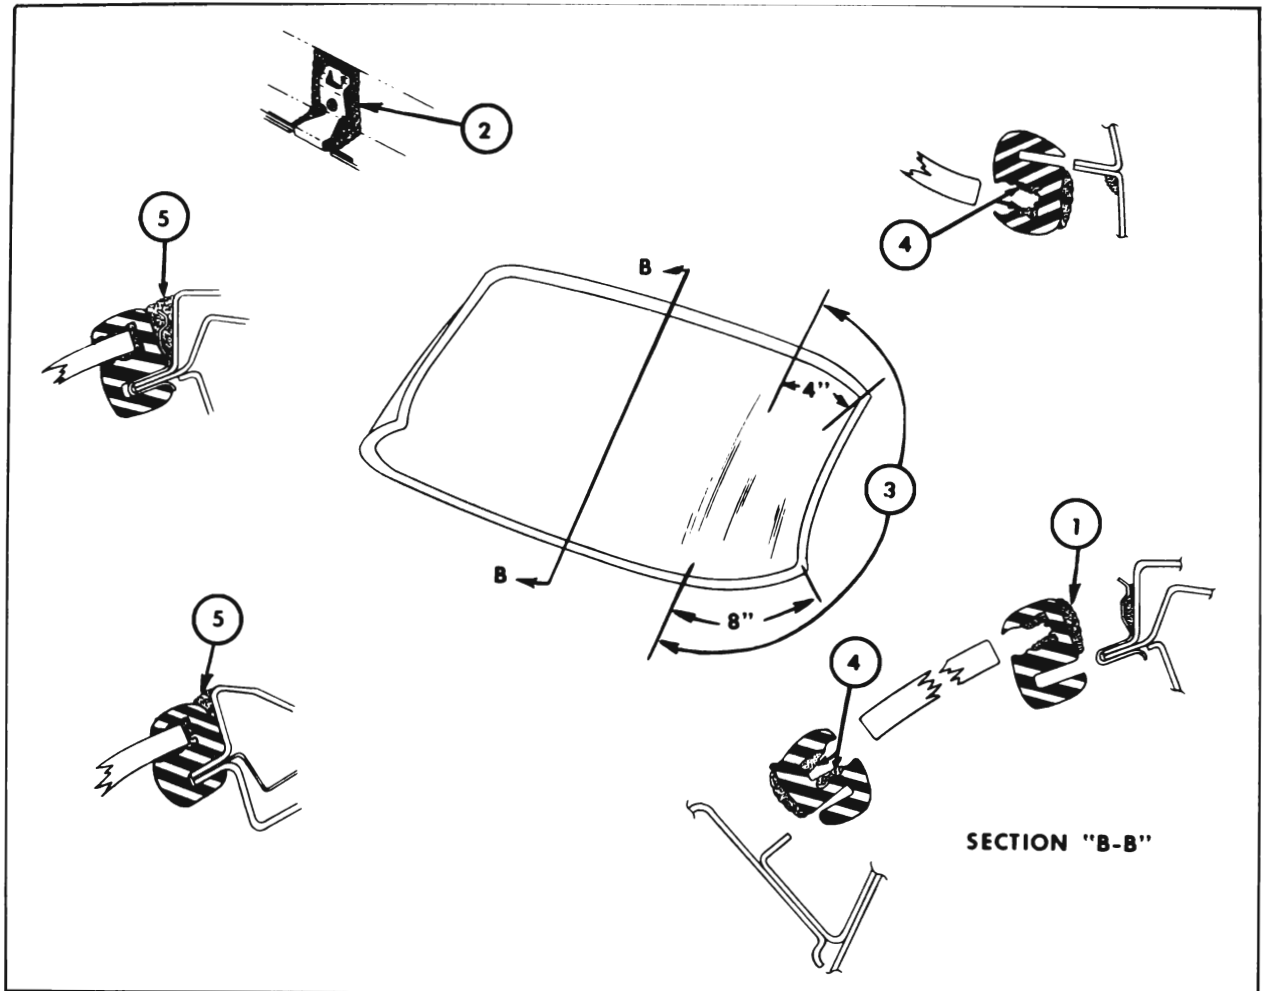

Figure 1-10—Windshield Sealing
4. Apply a ribbon of medium-bodied sealer completely around base of rubber channel (see #1, Figure 1-10).
5. Inspect condition of each molding clip, install new clips where necessary, make certain clips are properly sealed to pinchweld and body (see #2, Figure 1-10) except "67" styles.
windshield opening rabbet and around each side of windshield opening for a distance (see #3, Figure 1-10).
9. Using a pressure type applicator, seal inner and outer lips of rubber channel to glass with an approved weatherstrip adhesive (see #4, Figure 1-10). Seals are to extend completely around rubber channel.
11. On outside of windshield apply medium-bodied sealer between windshield rubber channel and opening across top and sides (see #5, Figure 1-10).